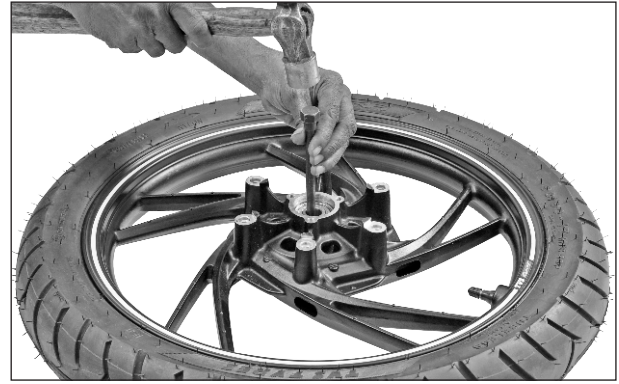

Fig. 6.5
- Gently tap out bearing left and right and spacer complete front hub with a suitable mandrel. (Fig. 6.5)